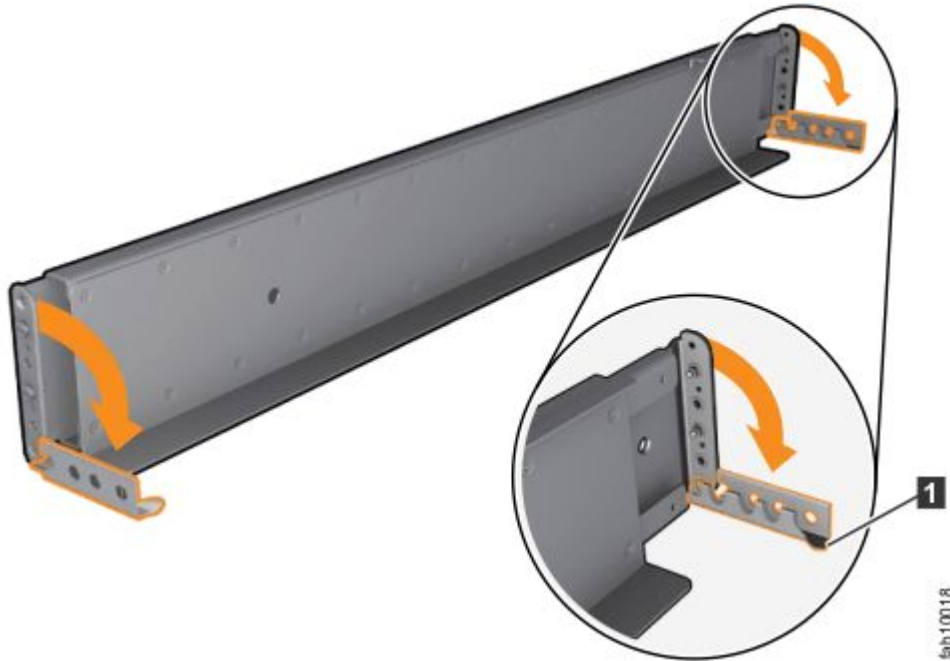

Figure 15. Opening the hinge brackets
Step 5. At each end of the rail, grasp the tab **1** and pull *firmly* to open the hinge bracket (see Figure 15 “Opening the hinge brackets” on page 18).